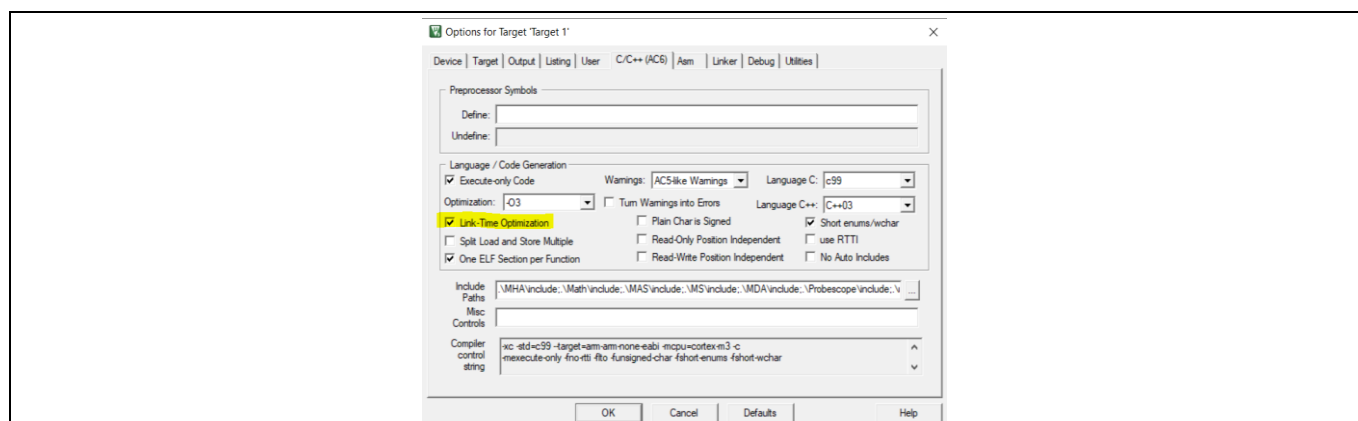

Figure 77 Keil Compiler option
*Note: For the better performance user can use **-O3 optimization** and enable the **Link – Time Optimization (LTO)** as shown in Figure 77. The users with Keil license can enable LTO.*